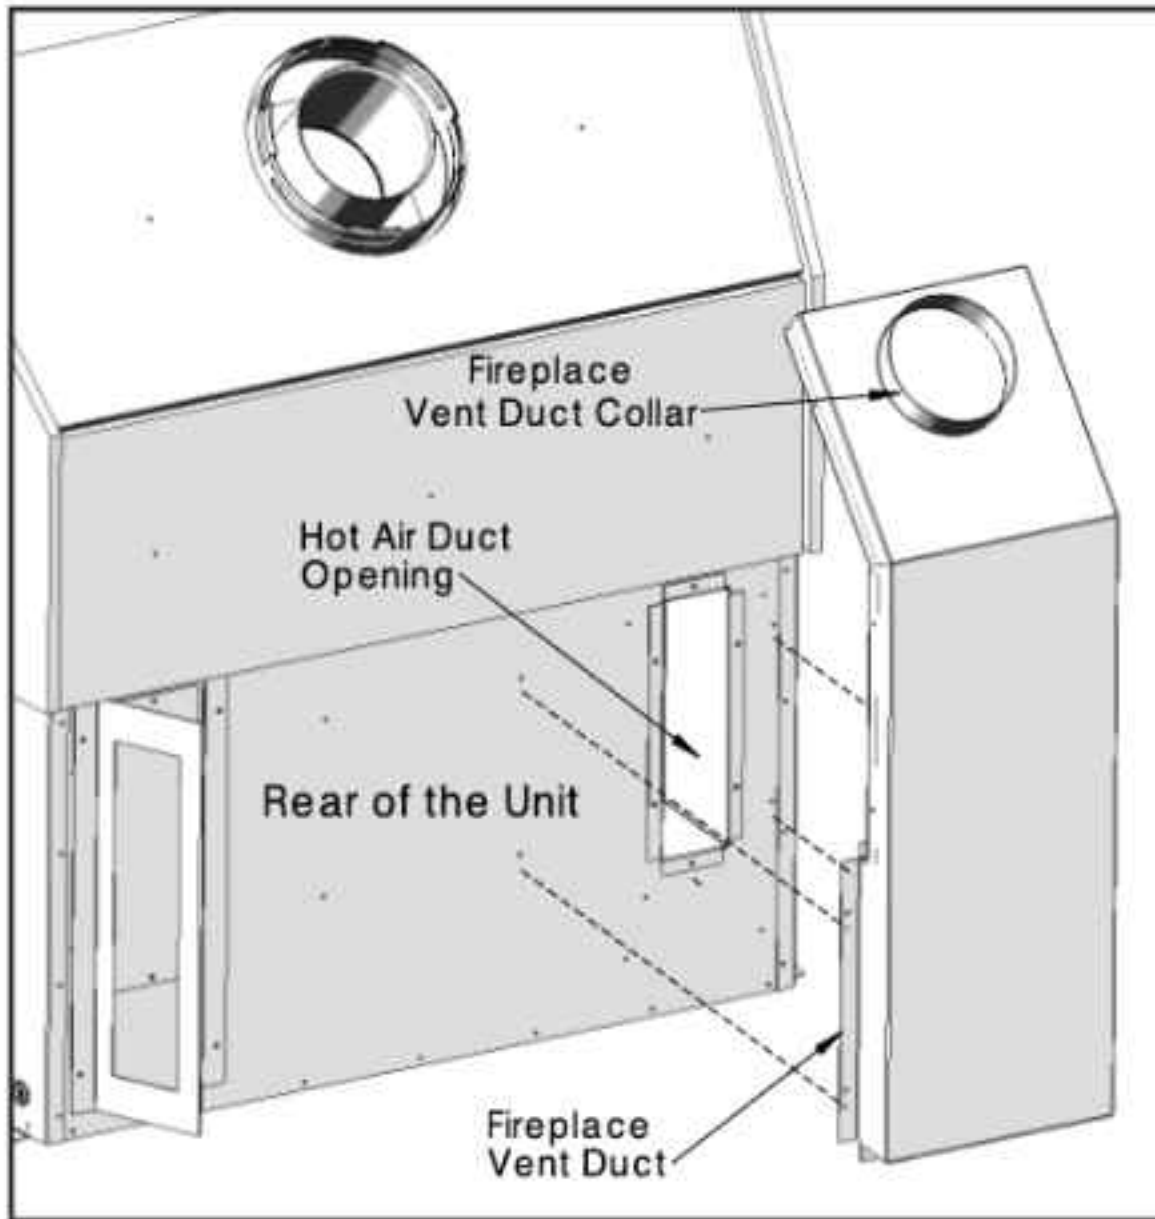

Figure 4: Install the vent duct kit.
3. Cover the hot air duct opening with the Fireplace Vent Duct (refer to Figure 4). Push the vent duct kit against the back of the fireplace and secure it in place with five (5) ¼" HWH self drilling screws.